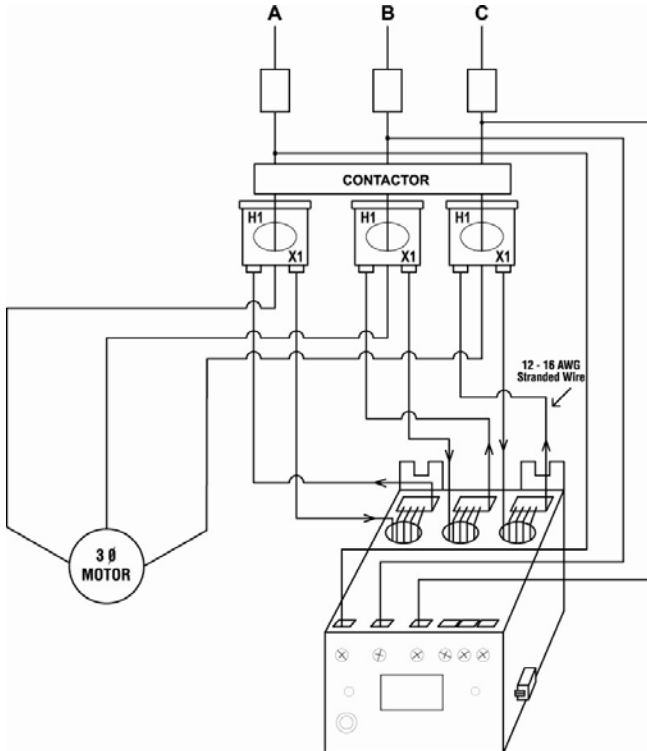

Figure 3: Typical Wiring Using External CTs¹
- c) For amperages greater than 90 amps, external CTs (current transformers) are required. SymCom recommends using CTs with terminal connections for easier installation. All CT secondaries must make five passes through the round holes on the MotorSaver®Plus. See Figure 3 for a typical wiring diagram using external CTs.